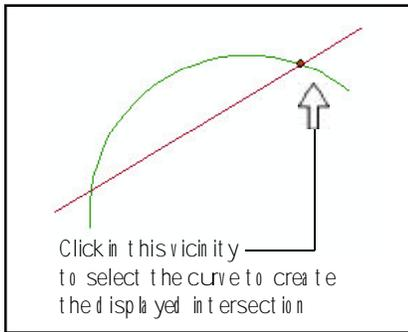

Figure 3 Line - Curve Intersection
3. **Line with a curve** yielding two possible points of intersection. The intersection that is used is the one nearest to the user's click that selected the curve. See Figure 3.